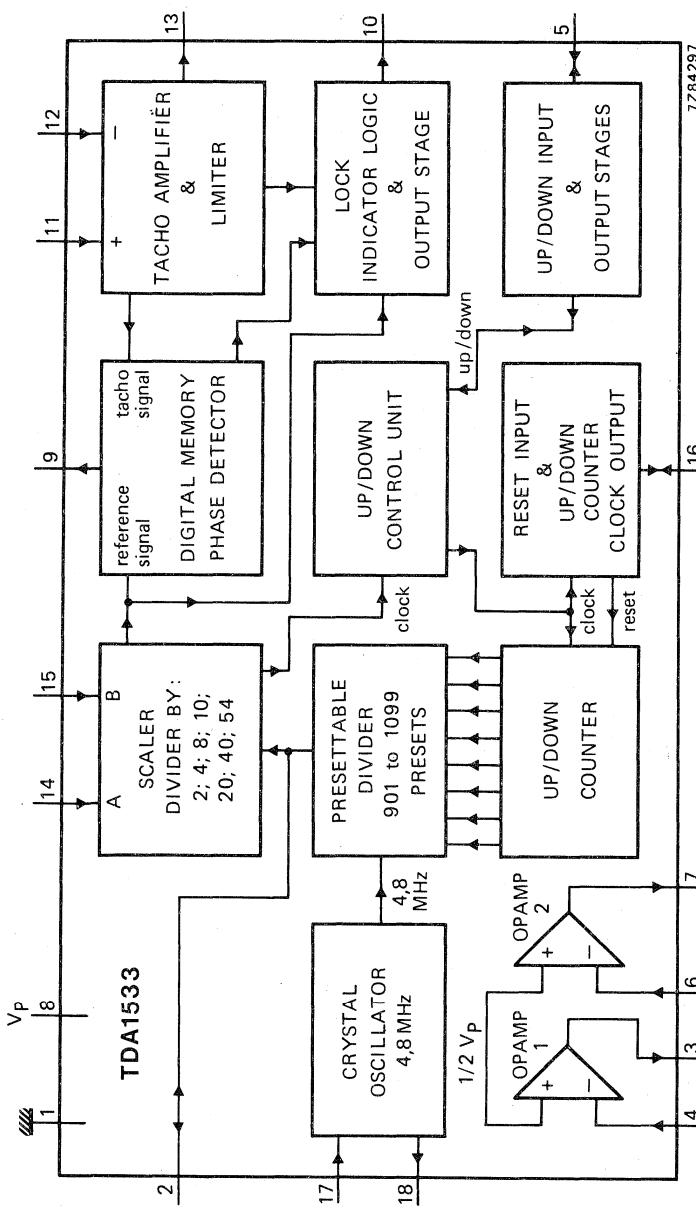

Fig. 1 Block diagram.
**GENERAL DESCRIPTION** (see also Fig. 1)